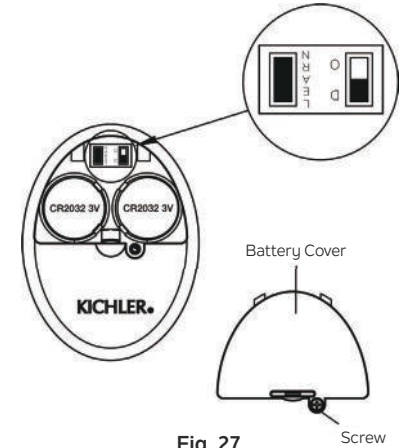

Fig. 27
Otherwise the remote control will not work. To perform this process manually, follow steps below: After installing and wiring the unit, restore power to your fan, press and hold the “LEARN” key for 1-3 seconds, and the fan will turn on at medium speed and light (if installed) will turn on. This confirms that the learning process has been completed. This operation must be completed within 30 seconds after restoring power to the fan. (Fig. 27)
**NOTE:** Ensure slide switch in battery compartment marked “D O” is set to “D” position. (Fig. 27)
**Step 4.** Replace the battery cover and tighten with screwdriver. (Fig. 27)